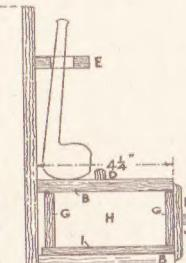

Fig. 2—Side elevation
The rounded-top fillet (D) which is glued and pinned down to the top of the box is placed  $2\frac{1}{2}$  ins. out from the main back to the front edge, thus allowing the pipes to rest, as shown in the side view Fig. 2, without falling forward.
The floor of the drawer (I) it must be noted, lies flush with the front face of the piece at the front of the frame, see section of drawer in Fig. 2. The back upright (G) of the drawer frame will come just a little way in, along the floor, so as to give added strength when the nails are driven through the floor into it.
The front of the drawer, piece (F), is  $\frac{1}{2}$  in. larger than the drawer itself all round, as will be seen in the section Fig. 2. The back edge, therefore, of piece (F) will lie flush with the front of the box when the drawer has been closed.